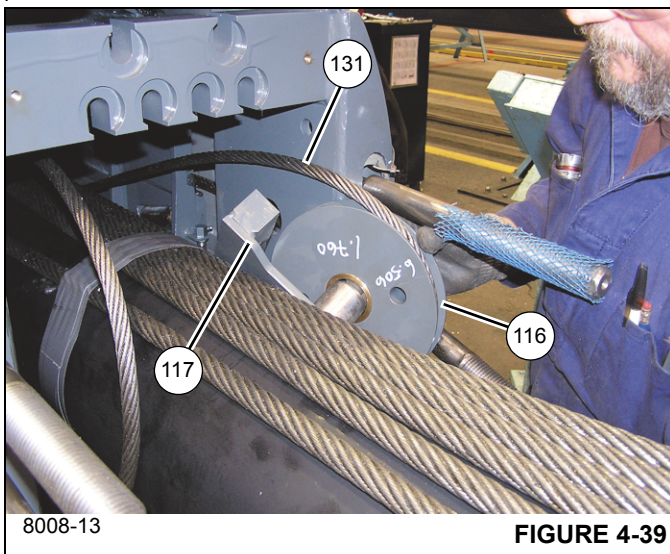

FIGURE 4-39
46. Install the sheave assembly (116) and three thrust washers (115) onto the shaft of the sheave mount weldment (117), ensuring one thrust washer is installed between the sheave mount weldment and the sheave assembly (perform this step two times).
47. Install the sheave mount weldment/sheave assembly (116/117) into the rear of tele 3 (4), ensuring the tele 4 retract cable (131) wraps around the sheave assembly (116); mount the sheave mount weldment (117) to the inside of tele 3 (4) using the four bolts (119) and flat washers (118) (left and right sides) (see Figure 4-39).